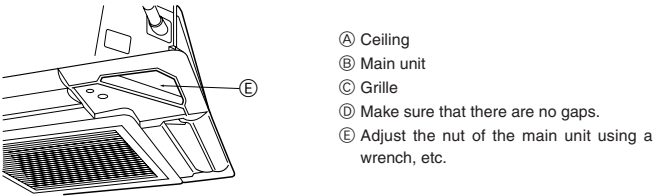

Fig. 5-7
5.4.3. Securing the grille (Fig. 5-7)